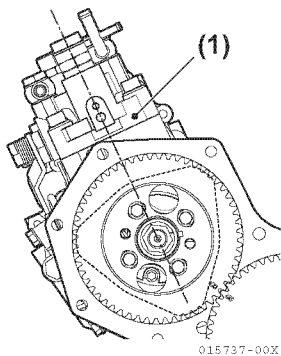
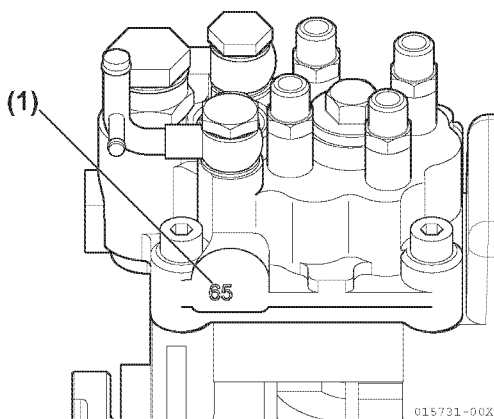

Figure 6-78
Figure 6-79
17. Locate and record the fuel injection pump timing index number (**Figure 6-79, (1)**) stamped into the boss on the engine side of the fuel injection pump housing (**Figure 6-78, (1)**).